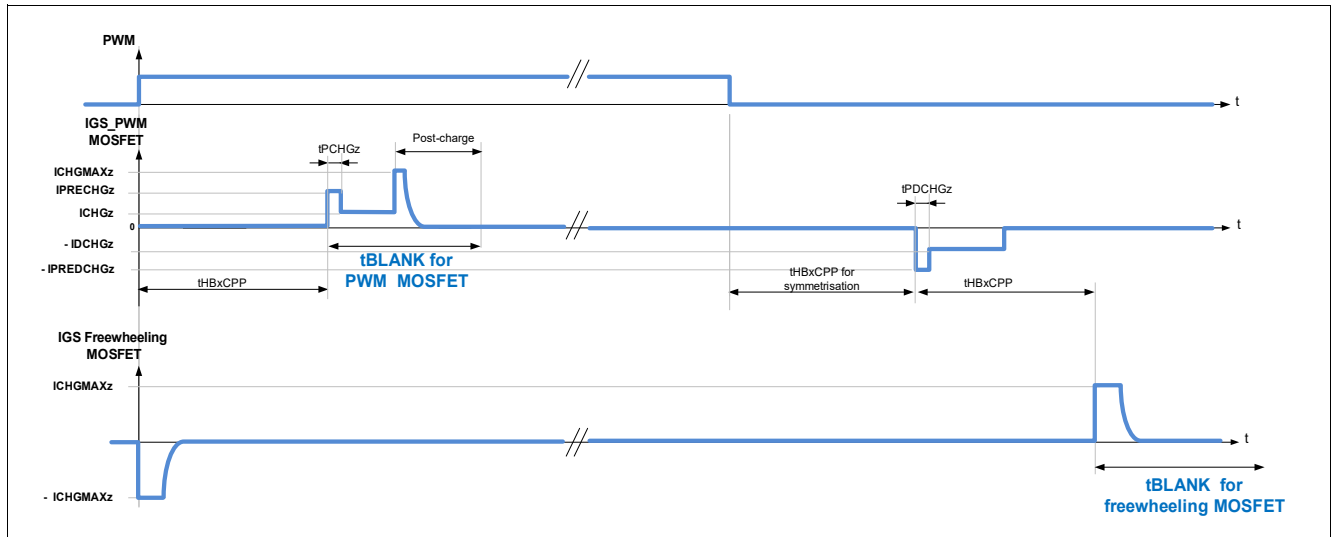

Figure 88 Blank time for half-bridges in PWM operation with $AFW = 1$
- the blank time of the PWM MOSFET starts at the expiration of the cross-current protection time of the PWM MOSFET. Refer to **Figure 88**.
- the blank time of the free-wheeling MOSFET starts after expiration of the cross-current protection time at turn-off of the PWM MOSFET. Refer to **Figure 88**.